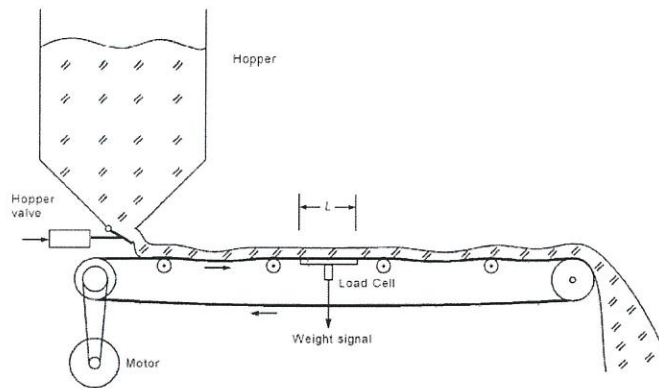
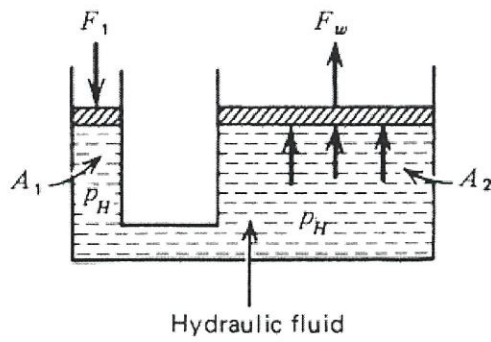

Figure Q1(b)
Figure Q2(b)
- (b) **Figure Q1(b)** shows the powder conveyer system moves with 200 ft/min. The length platform is 7.5 ft and a particular weighing, is 80 lb of powder on the platform. Calculate
- (i) **Three (3)** the main issues in valve selection. (6 marks)
- (b) **Figure Q2(b)** shows the hydraulic actuator converts a small force, F_l and working piston force, F_w with F_l is 400 N with 2cm -radius forcing piston, A_l . Calculate